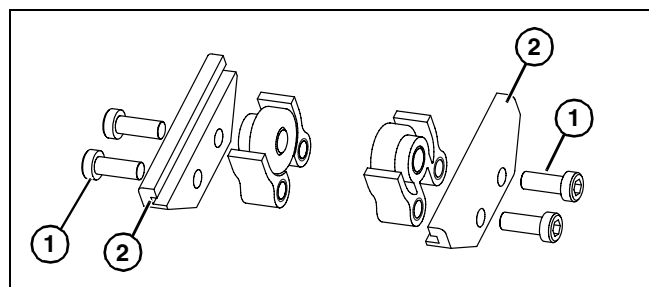

Figure 13
1. Locate return rollers. Exploded views shown in **Figure 13**.
2. Remove screws (**Figure 13, item 1**) and clips (**Figure 13, item 2**) from roller assembly.